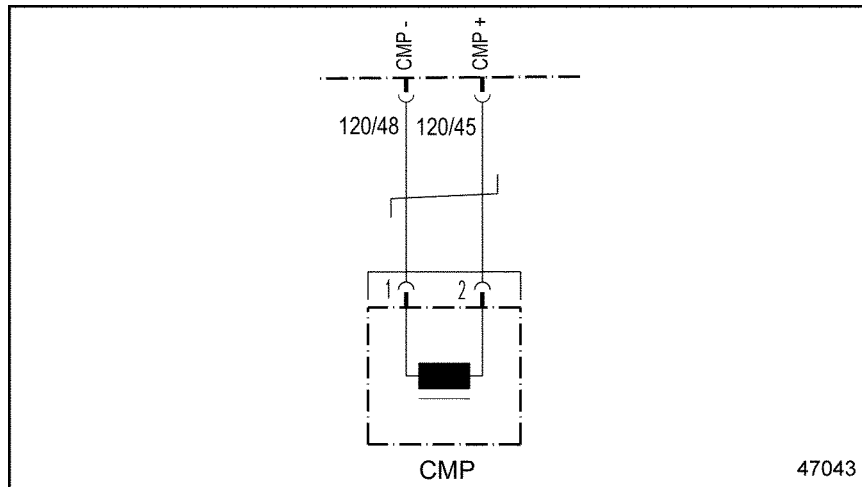

Figure 36-3 Camshaft Position Sensor
3. Ensure that the 120-pin connector wires are not crossed. If crossed, repair as necessary. See Figure 36-3. Refer to section 36.4.1.1.